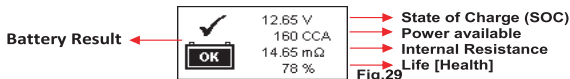

Fig.29
7. The results of the test will be displayed on the screen (Fig.29) within 7 seconds.
5. Basing on the example given in Fig.29, the final results can be explained as follows: